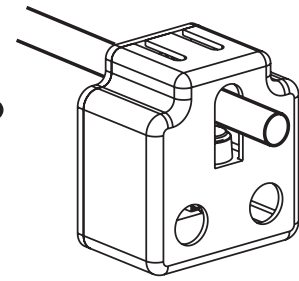
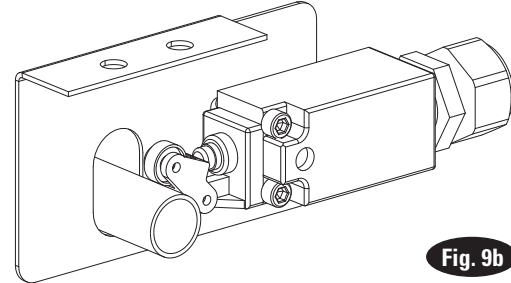

Fig. 9a
Fig. 9b
10a. Overhead Assembly: Fig. 10: Adjust overhead to appropriate dimension. Install (4) M10-1.5 x 20mm HHCS & M10-1.5 Flanged Locknuts, do not tighten. Slide Switch Box over switch bar ensuring knock out holes face the power unit column, Fig. 9a and Fig. 9b. Use (2) 1/4"-20NC x 3/4" lg. HHCS, 1/4" Flat Washer, and 1/4"-20NC Nuts to mount switch box to overhead, see Fig. 11.